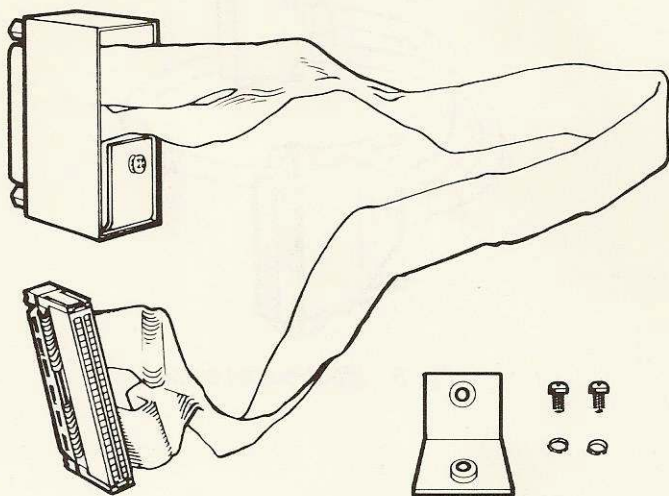

Fig. 3 Ribbon cable and //e L-bracket
| Figure 3 | Ribbon Cable, Cable Clamp and L-Bracket 1 - 5 |
- * The ribbon cable, metal cable clamp and Apple //e L-bracket, depicted in Figure 3.